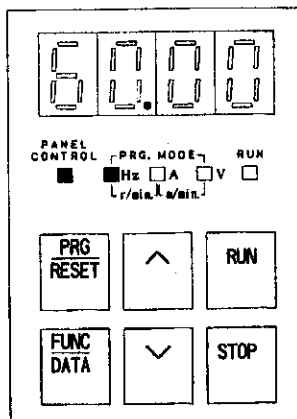

Fig. 11-1-2
② Make sure that there are no short circuits or accidental ground connections between the terminals or between uncovered charging sections.
③ Make sure that all screw and terminal connections are tight.
④ Make sure that the motor and the machine are separated.
⑤ Turn all switches off before turning on the power to make sure that the Inverter doesn't start up or operate incorrectly when the power is turned on.
⑥ Check the following after turning on the power supply:
b. Does the keypad panel appear as shown in Fig. 11-1-2 (with no abnormality being indicated)?